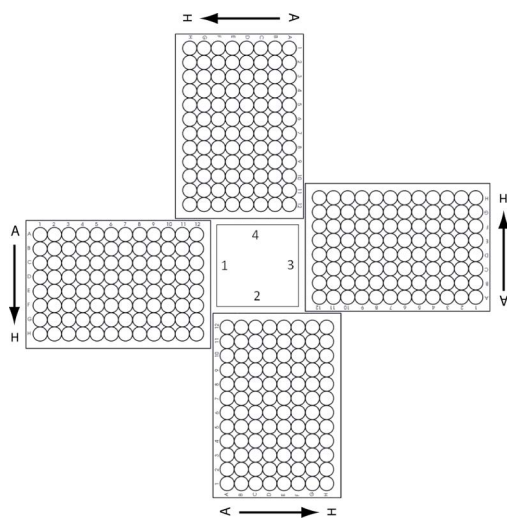

Figure 4 Agilent Labware MiniHub plate orientation.
- 1 Using the plate orientations shown in Figure 4, load the Labware MiniHub according to Table 23.